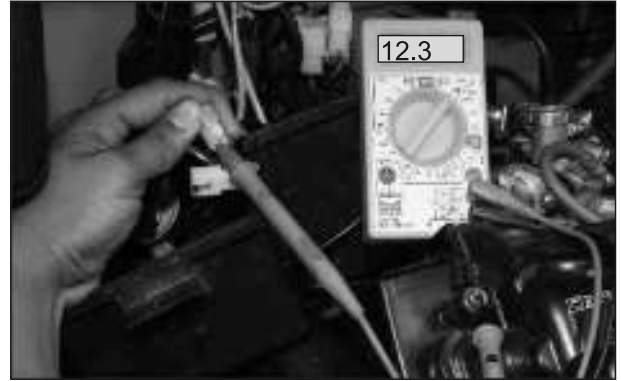

Fig. 6.33
- Connect the '+ve' probe of the multimeter to the White with Grey tracer (WGr) wire from the magneto assembly and '-ve' probe of the multimeter to the Body earth (Body earth). (Fig. 6.33)